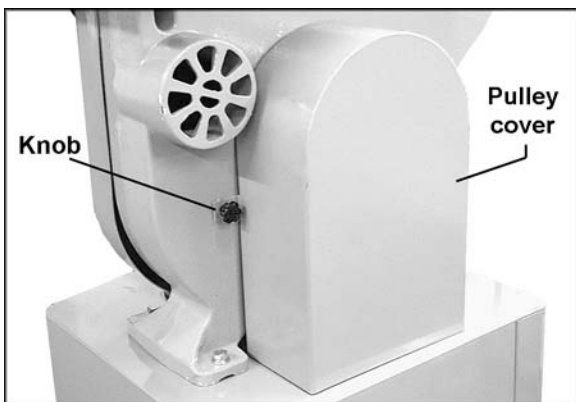

Figure 17
- Screw the two small knobs (Figure 17) into the threaded holes in the saw body. Slide the pulley cover down over the knobs, and tighten the knobs.